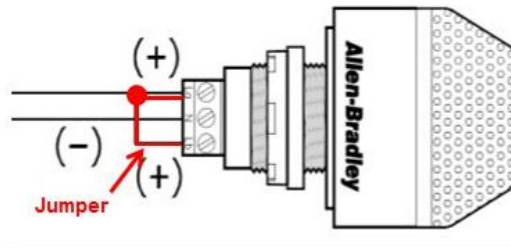

Figure 4-9: Jumper on RSL
- A. mounted on the ROBOT such that it is easily visible while standing three (3) ft in front of the ROBOT,
- C. wired for solid light operation, by placing a jumper between the “La” and “Lb” terminals on the light per Figure 4-9.